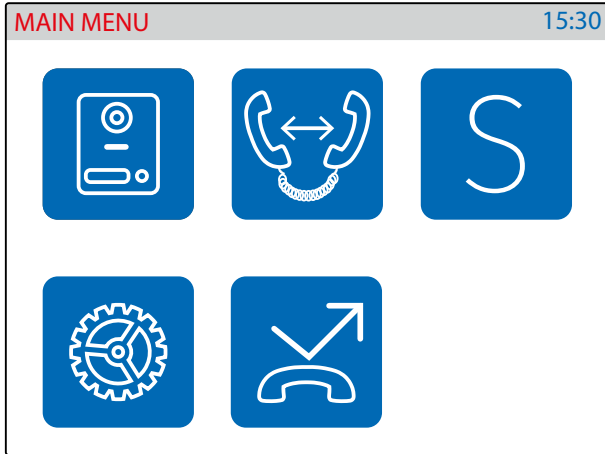
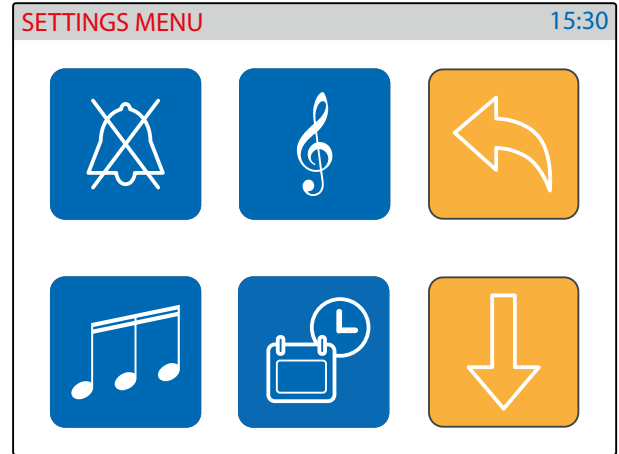

Fig. 4 Main menu
Fig. 5 Settings menu 1/2
- Programmable settings are: Privacy duration, Melody, Number of Rings and Date & Time (Fig. 5)
If the screen is black, first tap on it to see the main menu (Fig. 4) then tap on the gear icon to open the settings menu (Fig. 5)
- Tap on the privacy icon (Fig. 5 on page 16).
- Tap on the melody icon (Fig. 5 on page 16), the current melody is shown, tap on a melody to listen to it (Fig. 9) then tap on the tick button to confirm the selected melody.
- Tap on the rings icon (Fig. 5 on page 16).
- Tap on the date & time icon (Fig. 5 on page 16)